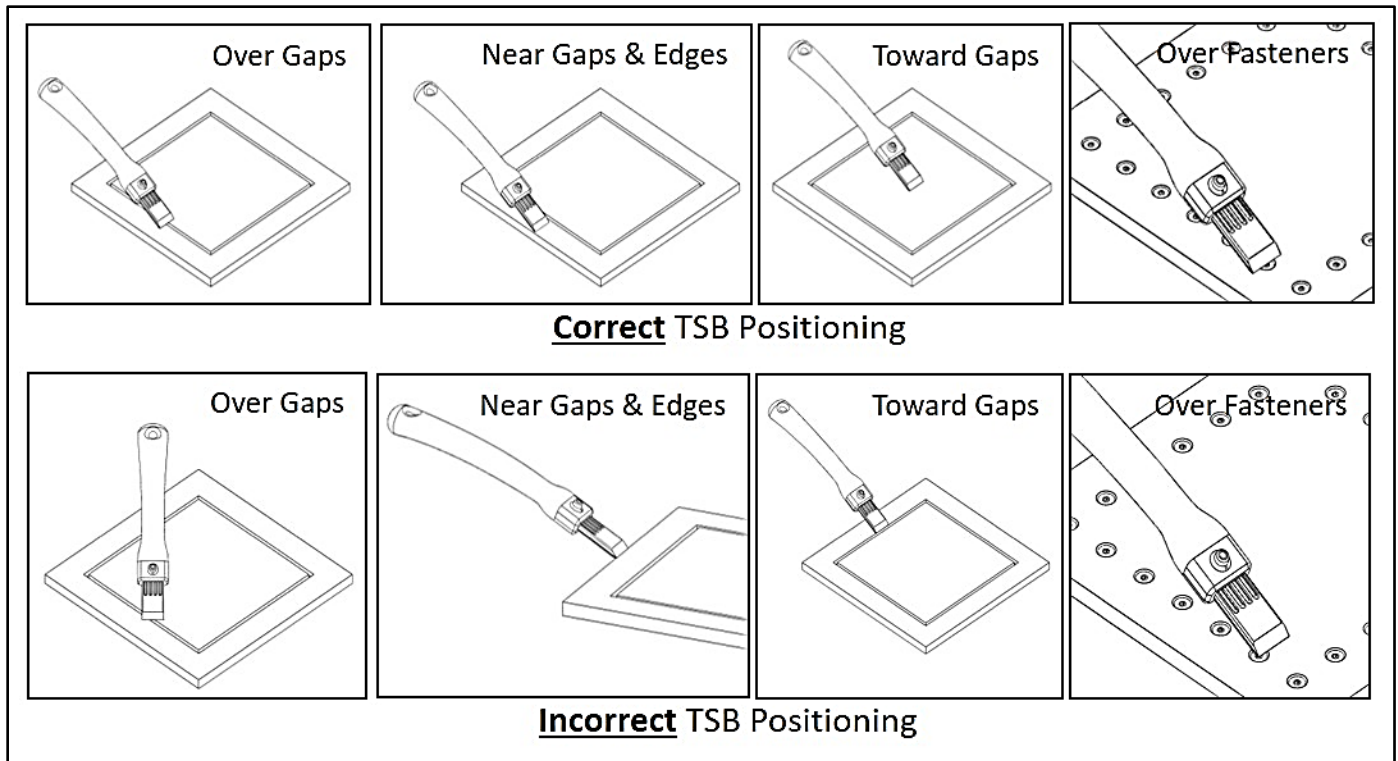

Figure 4. Material Removal Using TSB
- 3.1.4. Ensure proper positioning of the TSB and proper direction of material removal when removing materials near edges of structures, gaps and fasteners. Care must be taken to avoid blade contact with composite structure edges during initial blade engagement with the coating, boot or tape and during removal. When near part edges, removal should proceed parallel to the edges. Blades should span gaps and fasteners. See **Figure 4**.